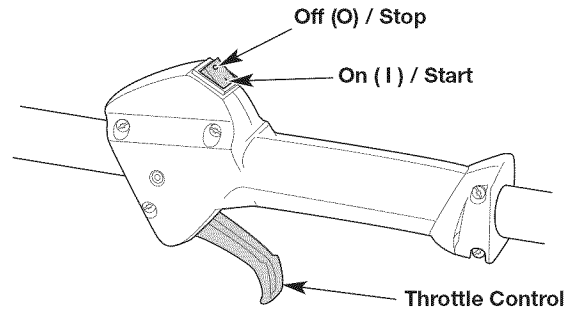
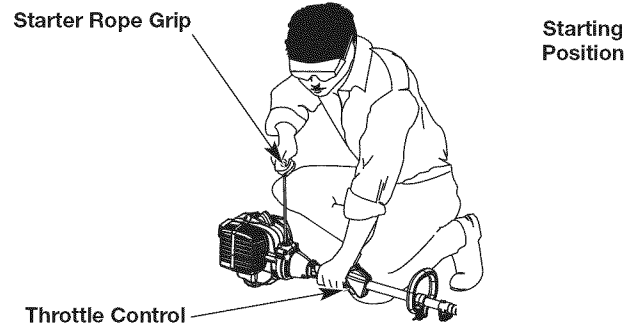

Fig. 6
Fig. 8
**WARNING:** Avoid accidentally starting the unit. To avoid serious injury, the operator and the unit must be in a stable position when pulling the starter rope (Fig. 8).
**NOTE:** There is no need to turn the unit on. The On/Off switch is in the ON ( 1 ) position at all times (Fig. 6).
5. Crouch in the starting position (Fig. 8).
6. Squeeze the throttle control (Fig. 6) and pull the starter rope with a controlled and steady motion **5 times** (Fig. 8).
2. Press and hold the On/Off switch in the OFF (O) position until the engine comes to a complete stop (Fig. 6).
**NOTE:** There is no need to turn the unit on. The On/Off switch is in the ON ( I ) position at all times (Fig. 6).
7. Squeeze and hold the throttle control (Fig. 6). Run the Speed Start™ accessory for 2 seconds.